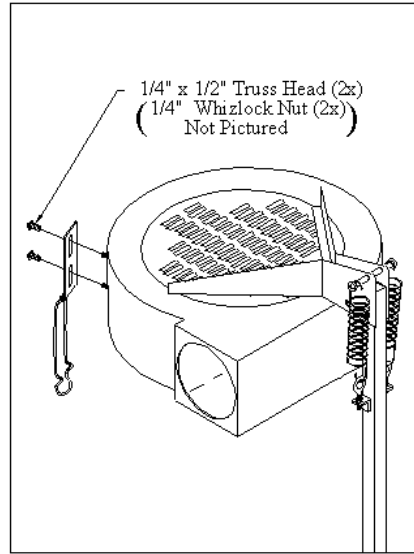

Fig. 10
10. Align slots on container latch (19) to holes on molded top and secure with $\frac{1}{4}$ " x $\frac{1}{2}$ " truss screws and whizlocks. **Fig. 10**